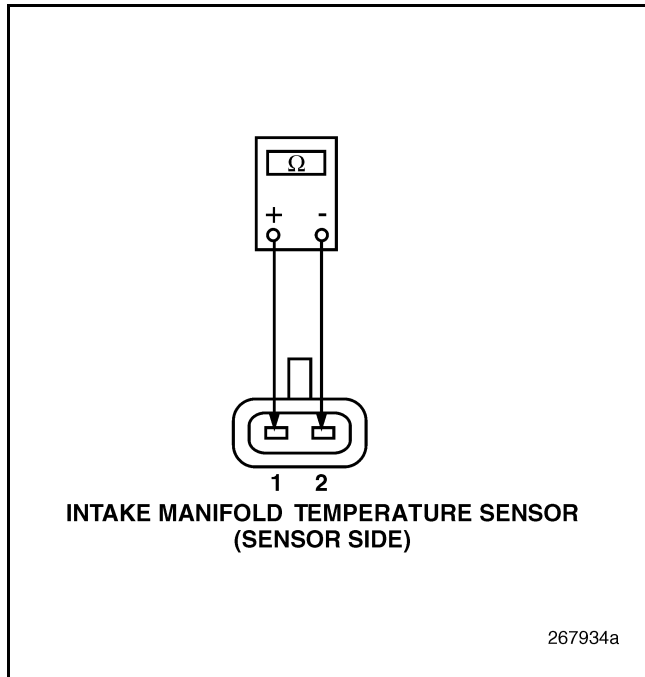

Figure 209
3. Measure the resistance across the pins of the IMT Sensor with the air temperature between 55° and 180°F (10° and 82°C) (see Figure 209).